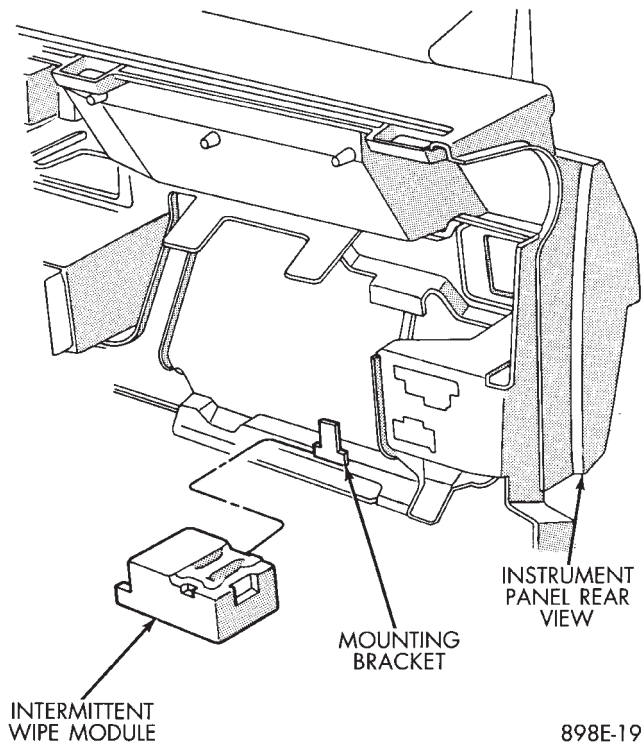

Fig. 26 Intermittent Wipe Module
- (1) Remove lower steering column cover.
- (2) Slide intermittent wipe module off of bracket located on steering column reinforcement (Fig. 26).
- (3) Disconnect wiring connector from module and remove module from vehicle.
- (4) For installation reverse above procedures.